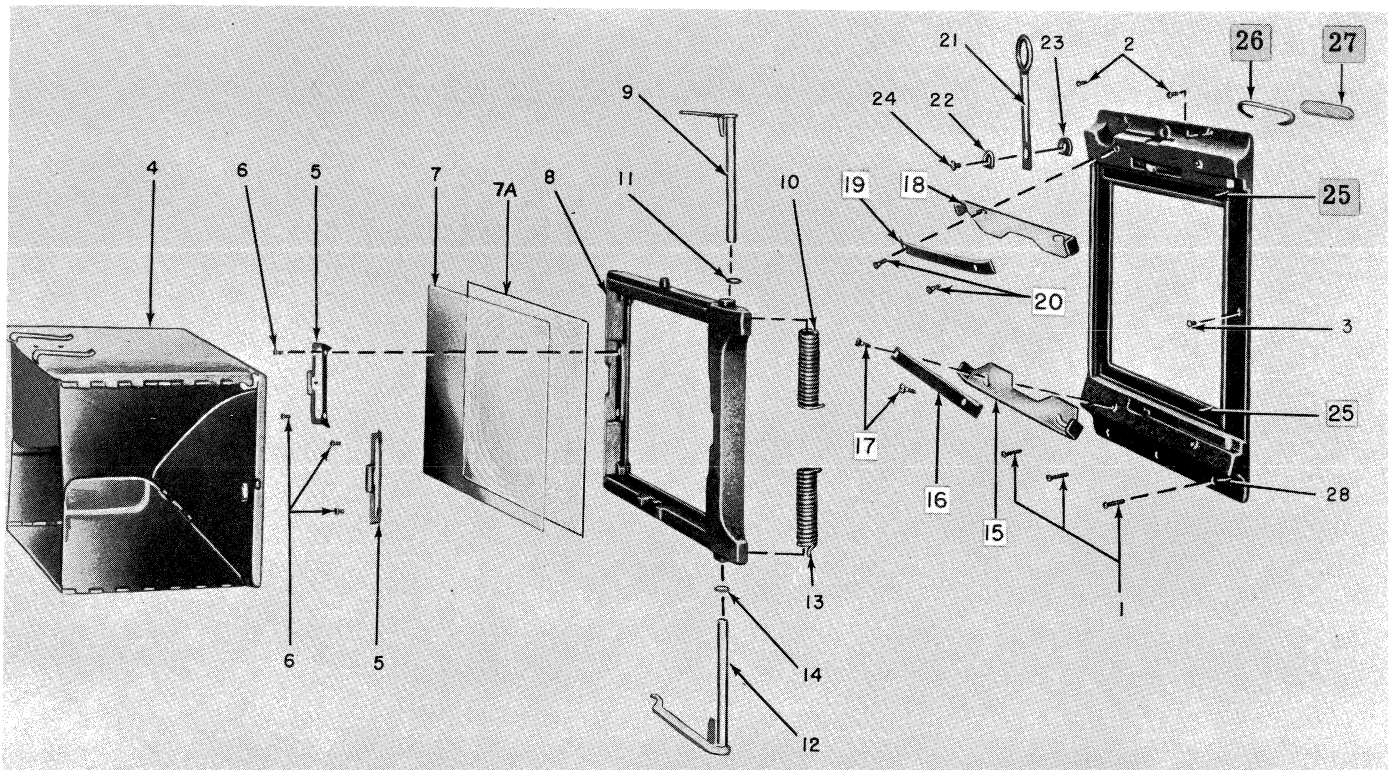

Figure 4. 4 x 5 Graflok Camera Back, Exploded View
1. Remove the focusing panel frame assembly by simultaneously pressing the knurled finger pads of the upper and lower arm assembly (9 and 12, figure 4) and slide the frame to the right, free of the arm hooks.
2. Remove the long self-tapping screws at the bottom (1), short self-tapping screws at the top (2) and one wood screw (3) at the right side, if used.
3. Remove the hood assembly (4) by pressing outward on the tab of the hood retainer (5).
4. Remove the focusing screen (7) and the two hood assembly retainers (9).
2. Check focusing frame (8, figure 4) and back (28) on a machined surface plate. If these parts do not lie flat they must be straightened.
2. Lubricate the slidelocks by wiping both sides lightly with a block of paraffin wax, Federal Specification VV-P-121a. Position the slidelocks (15 and 18, figure 4) so that the slots angle to the left and toward the center. Reassemble the slidelocks, the spring (16 or 19), and the special slidelock screws (17 or 20) so that the screw shoulder fits within the slot of the slidelock.